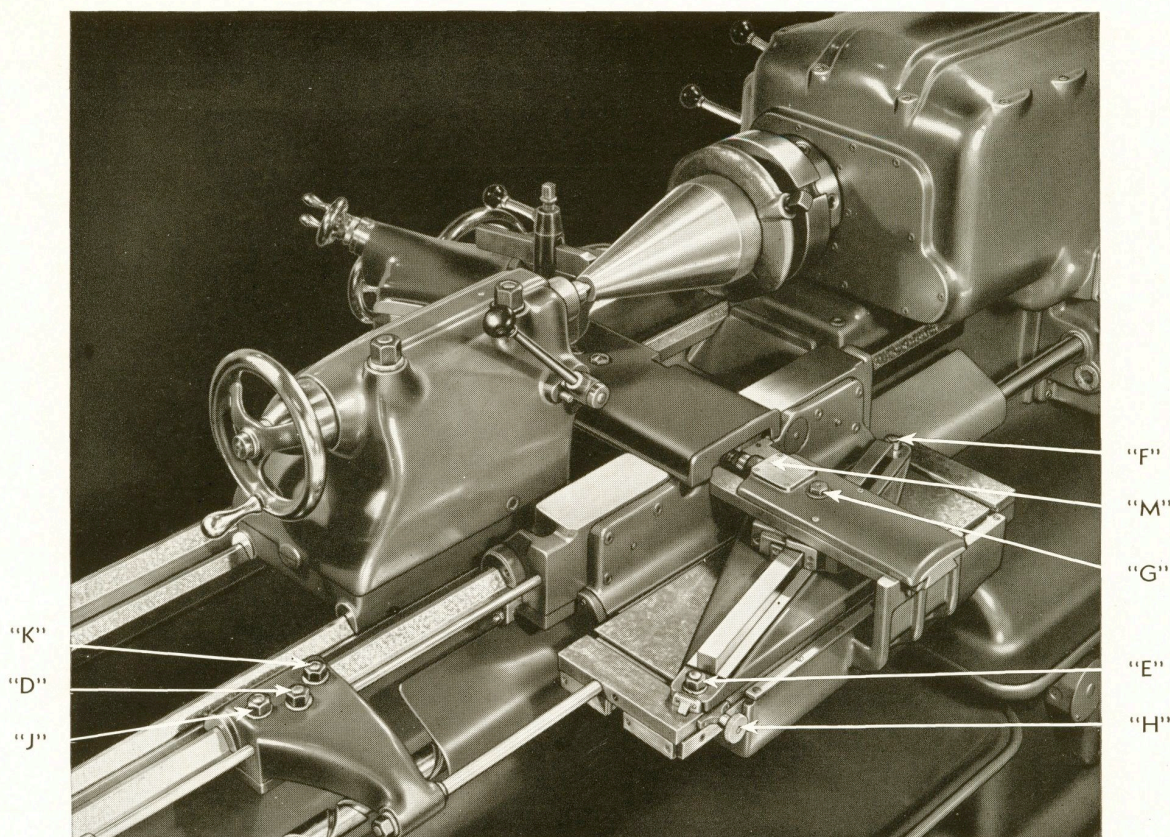

Figure No. 13, Ball Bearing Taper Attachment.
front end of the screw. On carriages with the taper attachment, unscrew the square plate "M", Figure No. 13, page 18, directly over the back end of the screw, loosen two small set-screws in round nut, and adjust nut until end play is removed.
**TAPER ATTACHMENT**—The ball bearing taper attachment, Figure No. 13, page 18, is easily and quickly set up for action. Loosen draw bar binder nut "D", the two swivel nuts "E" and "F", and screw "G". By means of the knurled knob "H" set swivel to desired taper, either inches per foot at one end of swivel base or degree of angle at the other, then tighten nuts "E" and "F" and screw "G". Also tighten dog clamp nuts "J" and "K". To change from taper to straight turning loosen nuts "J" and "K" and tighten nut "D". Make sure that nut "D" is tight when turning straight work.